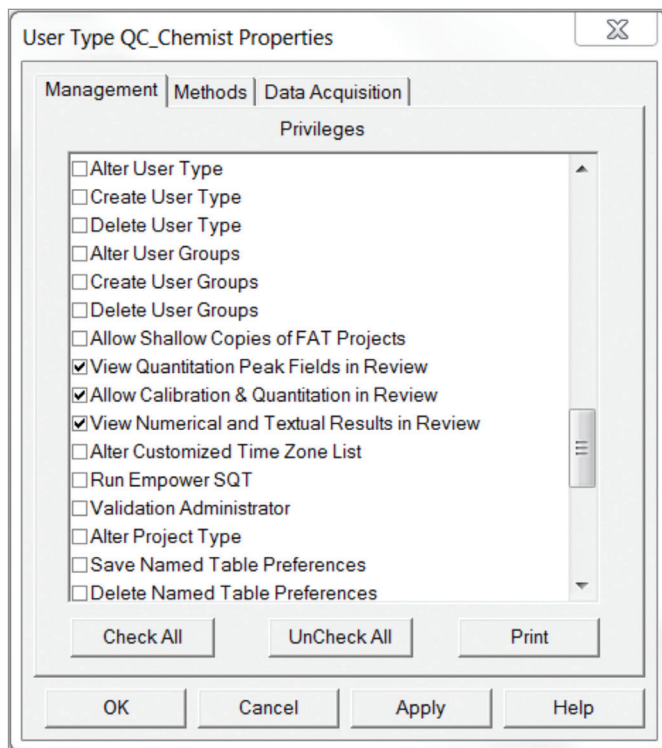

Figure 3. Privileges associated with actions in Review.
- **Allow Calibration and Quantitation in Review** – Allows the user to calibrate and quantitate data in the Review window. Users not assigned this Privilege cannot calibrate and quantitate data in Review. They cannot add, insert, delete or modify points on the calibration curve, individual-point table, or delete points on the calibration curve plot. Disallowing this privilege removes the ability of a user to see peak/component identification or any component-specific processing values in the peaks table or plot for any unsaved live data they are working with in Review (Figure 3).